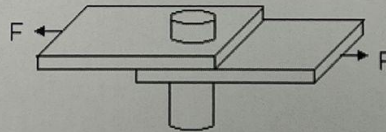

FIG Q12
- (a) the friction force; (3)
- (b) the acceleration of the body; (3)
- (c) the distance the body will travel from rest in 10 seconds. (4)
12. FIG Q12 shows two strips of metal 30 mm wide and 4 mm thick. They are joined by a 10 mm diameter pin which goes through 10.5 mm holes in the plate.
- (a) Under increasing load calculate which will fail first, the plate or the pin; (6)
- (b) Determine the failure load, F for the system. (2)